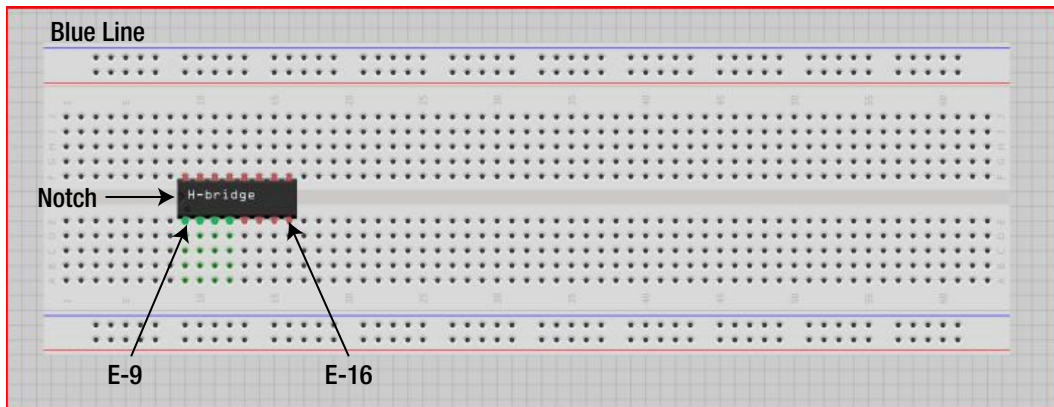

Figure 15-3. Attach the H-bridge to the breadboard
1. First, be sure your breadboard is in the correct orientation, with the blue line at the top. Now insert the H-bridge in the breadboard, making sure the notch on the H-bridge (it will be either a small dot or a U-shaped notch) is facing to the left, as shown in Figure 15-3. Notice that the left side of the chip starts at E-9 and continues to E-16. Likewise, the other side of the chip has its pins inserted into F-9 through F-16.